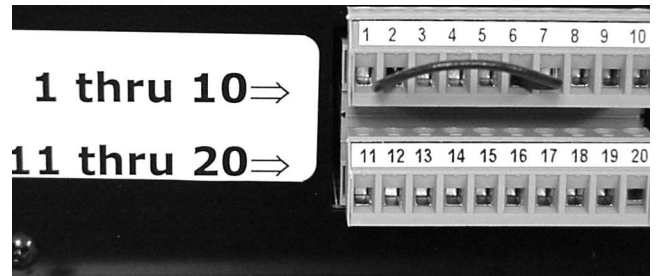

Figure 34. Contacts Connection
1. Install a jumper wire between terminals #6 and terminal #2 (see Figure 34).